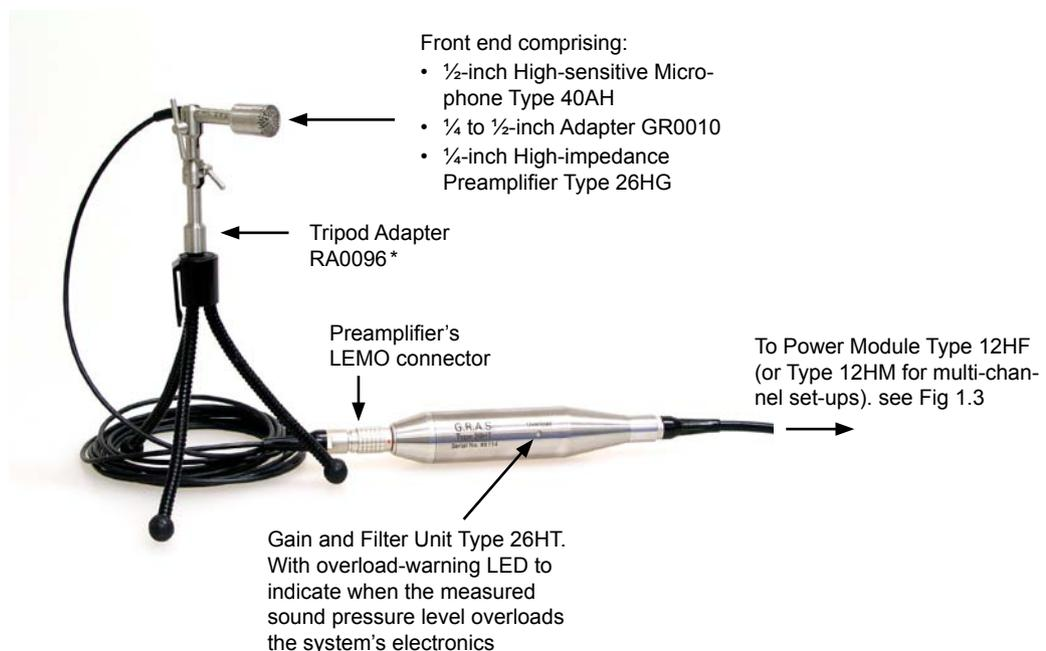
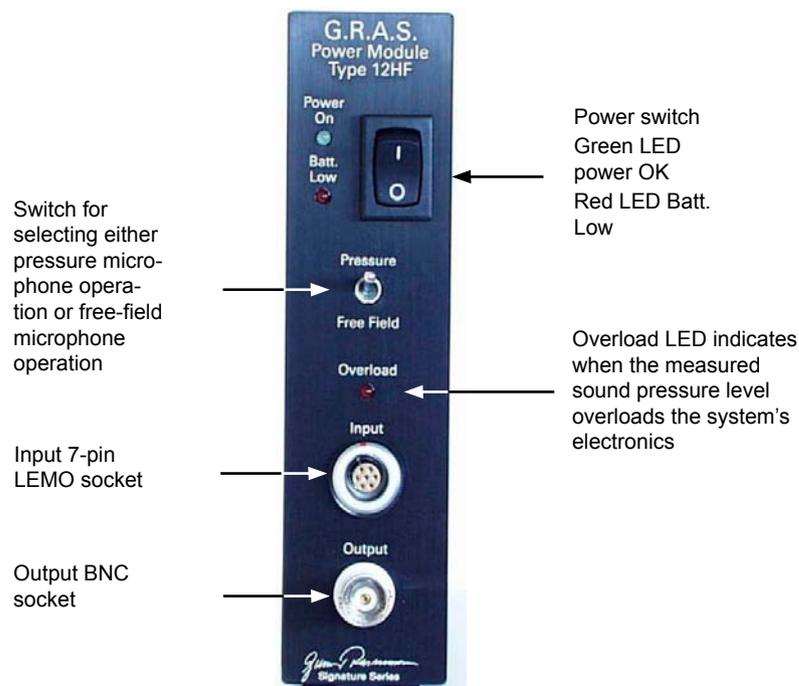

Fig. 1.1 ½-inch Low-noise Measurement Microphone System Type 40HT
Fig. 2.1 Front panel of the Power Module Type 12HF
The ½-inch Low-noise Microphone System Type 40HT (Fig. 1.1) can measure noise levels below the threshold of human hearing.
The body of the Unit has an overload-warning LED, (Fig. 1.1), which is repeated on the front panel of the chosen power module (see Fig. 2.1).
The choice of which frequency response to use is made via a two-position switch marked **Pressure / Free Field** on the front panel of the chosen power module (see Fig. 2.1).
The front panel has the following features (see Fig. 2.1):
- Overload-warning LED synchronised with the one on the Gain and Filter Unit Type 26HT (see Fig. 1.1).